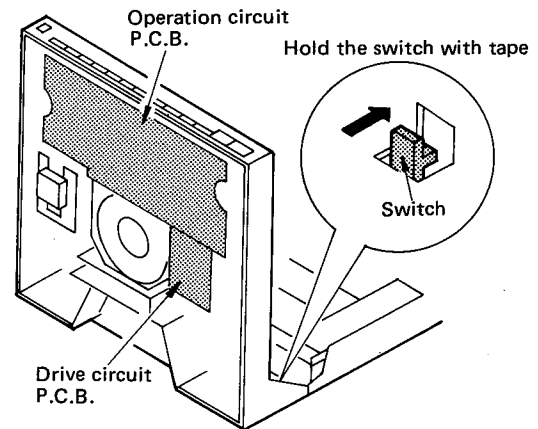

Fig. 24
2. How to raise the set (Fig. 24)